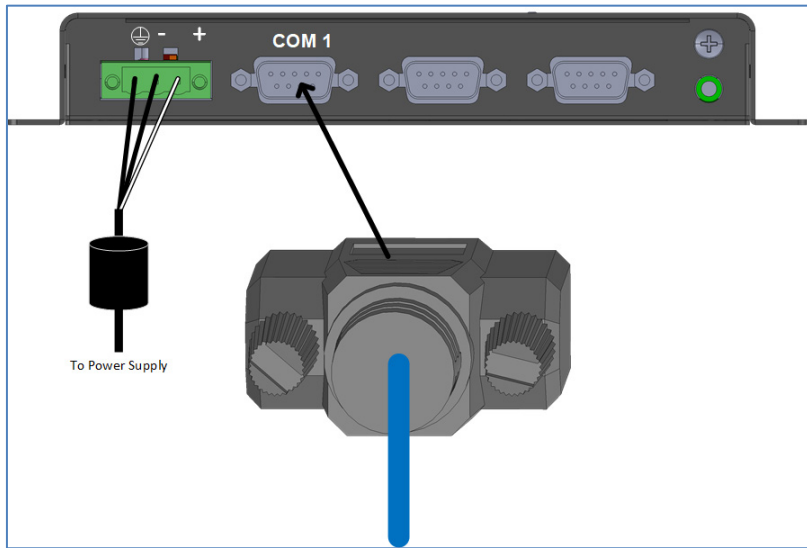

Figure 10: Insert 9 Pin Connector
- 1 Insert the Junction Box 9-Pin Connector into COM1 (see Figure 10).